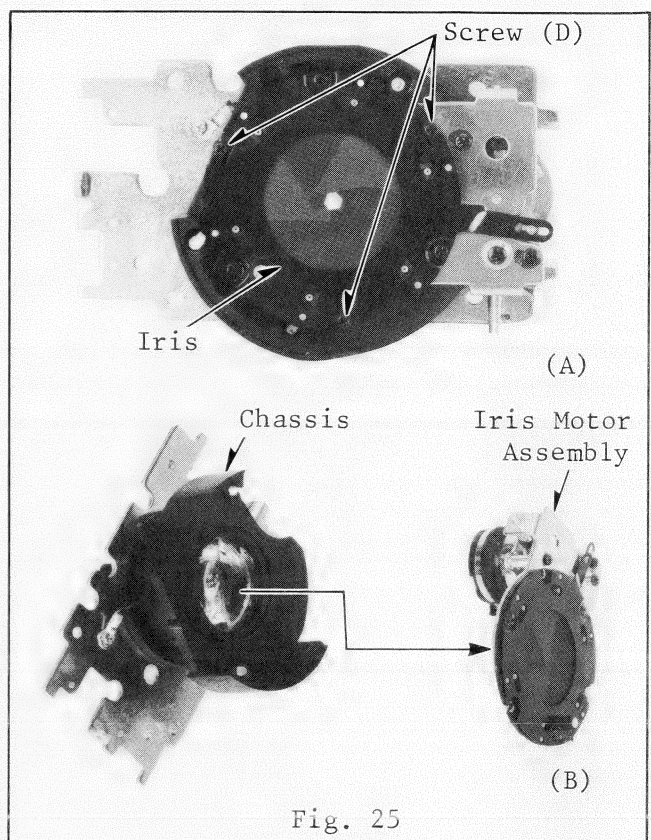

Fig. 25
6-7. Unscrew 3 screws (D) and remove the iris motor assembly (see Fig. 25-A/B).